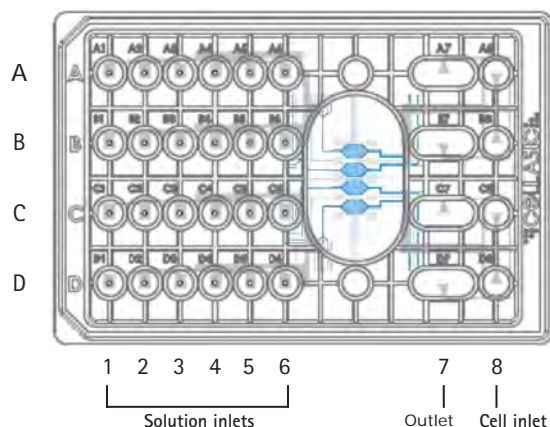

Figure 1. Plate configuration
- For units to be used (A-D, see Figure 1), replace the PBS in the solution inlet (wells 1-6) and cell inlet (well 8) wells with 100-300 μL of your desired media, e.g., RPMI with 10% FBS. Aspirate and empty well 7 (waste well). Make sure to leave all the wells of any unused units filled PBS solution while emptying well 7.